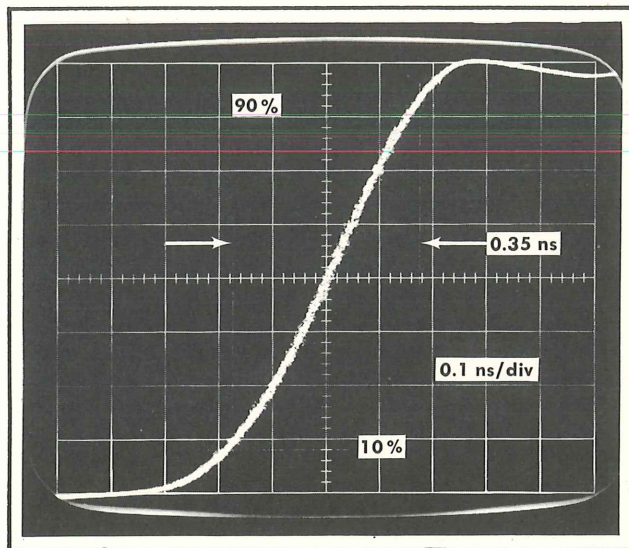

Fig. 5-7. Risetime measurement without a Digital Unit.
- Adjust the Type 3S3 mV/DIV VARIABLE control until the display amplitude is 8 vertical divisions between the 0% and the 100% points as shown in Fig. 5-7. Use either the trace top or bottom so that the trace width is excluded from the measurement.
- Adjust the Type 3S3 Snap-Off Current control (R205) until the displayed risetime is 0.35 ns from the 10% amplitude to the 90% amplitude points of the pulse rise. See Fig. 5-7. Turning the control counterclockwise increases the rate of rise, giving a faster risetime.
4. Adjust Memory Gate Width and Loop Gain ①